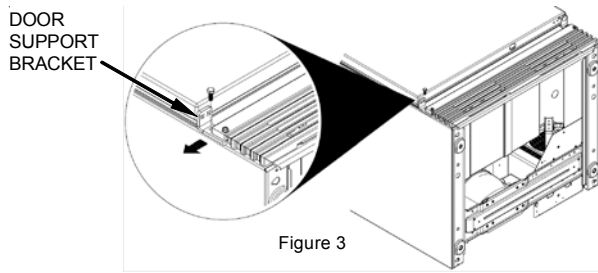

Figure 3
- Remove bottom door support bracket and screw opposite the door hinge using a 3/8" socket wrench (see Fig. 3).
- Align the bolt with the threaded hole in the front right foot pad of the unit. Thread the bolt into the hole until finger tight (see Fig. 3).